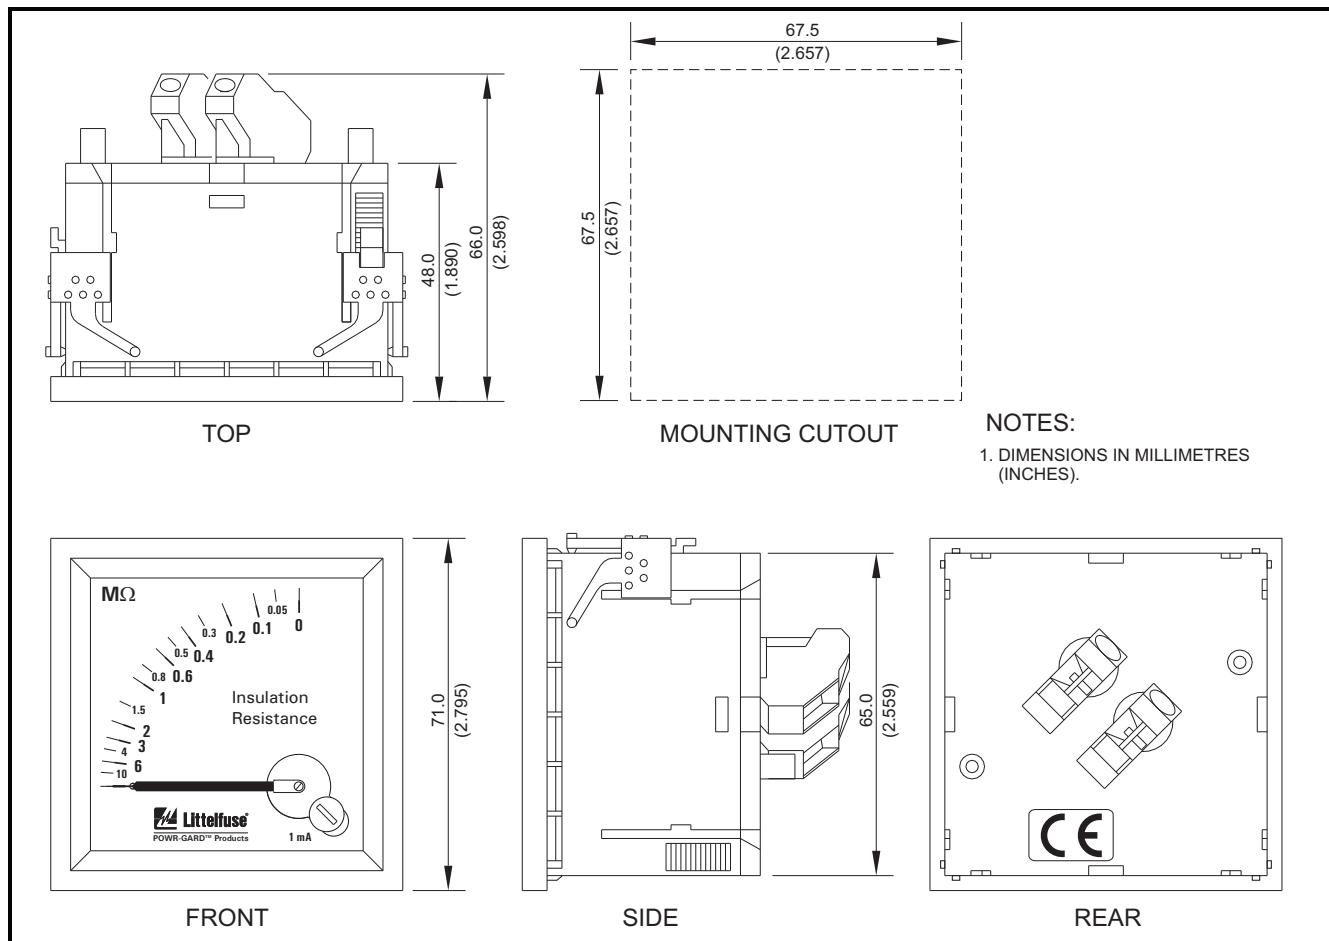

FIGURE 6. PGA-0510 Analog Ohm Meter
- Verify proper reaction of the circuit-interrupting device in response to a simulated or controlled ground-fault current. To simulate ground-fault current, use CT-primary current injection. Fig. 6 shows a test circuit using the PGT-0400 Ground-Fault-Relay Test Unit. The PGT-0400 has a programmable output of 0.5 to 9.9 A for a duration of 0.1 to 9.9 seconds. Fig. 6 shows the use of resistors that reduce the injected current to 10% of the PGT-0400 setting. Set the test current to 120% of the PGR-6100 setting. Inject the test current through the CT window for at least 2.5 seconds. Verify that the circuit under test has reacted properly. Correct any problems and re-test until the proper reaction is verified.